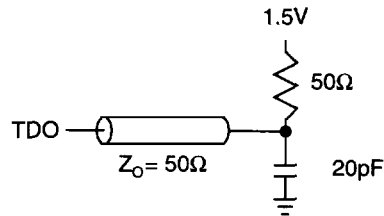

Figure 5
- Test conditions are specified using the load in Figure 5.